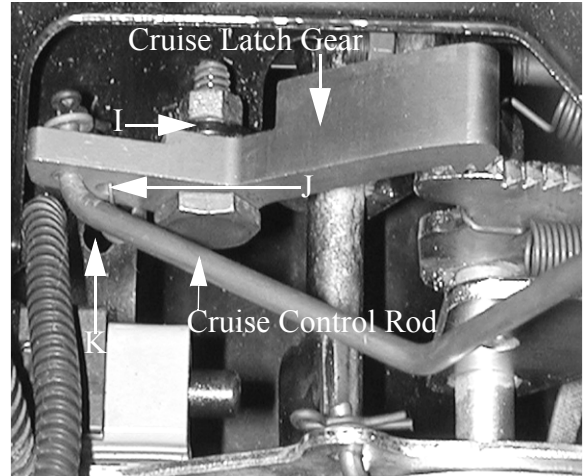

Figure 6
10. Install the cruise latch gear to the extruded hole on the frame (I) of the tractor using the lock nut and shoulder screw.. Once the latch gear is attached loosely, install the extension spring to the hole in the latch gear closest to the dash (J) and the corresponding hole in the frame (K). The spring should be hooked on the cruise latch gear on the operator's right side. Tighten the assembly once all hardware has been properly installed. (Figure 6)
11. Attach the cruise control rod with the washer and cotter pin to the cruise latch gear through its forward most hole. (Figure 6)